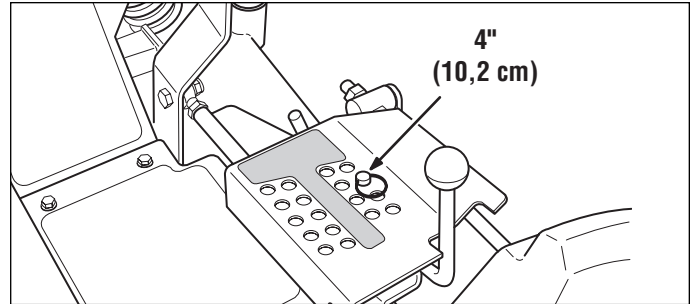

Figure 15. Deck Height Pin Position
2. Install the cutting height adjustment pin in the 4" (10,2 cm) position. See Figure 15.